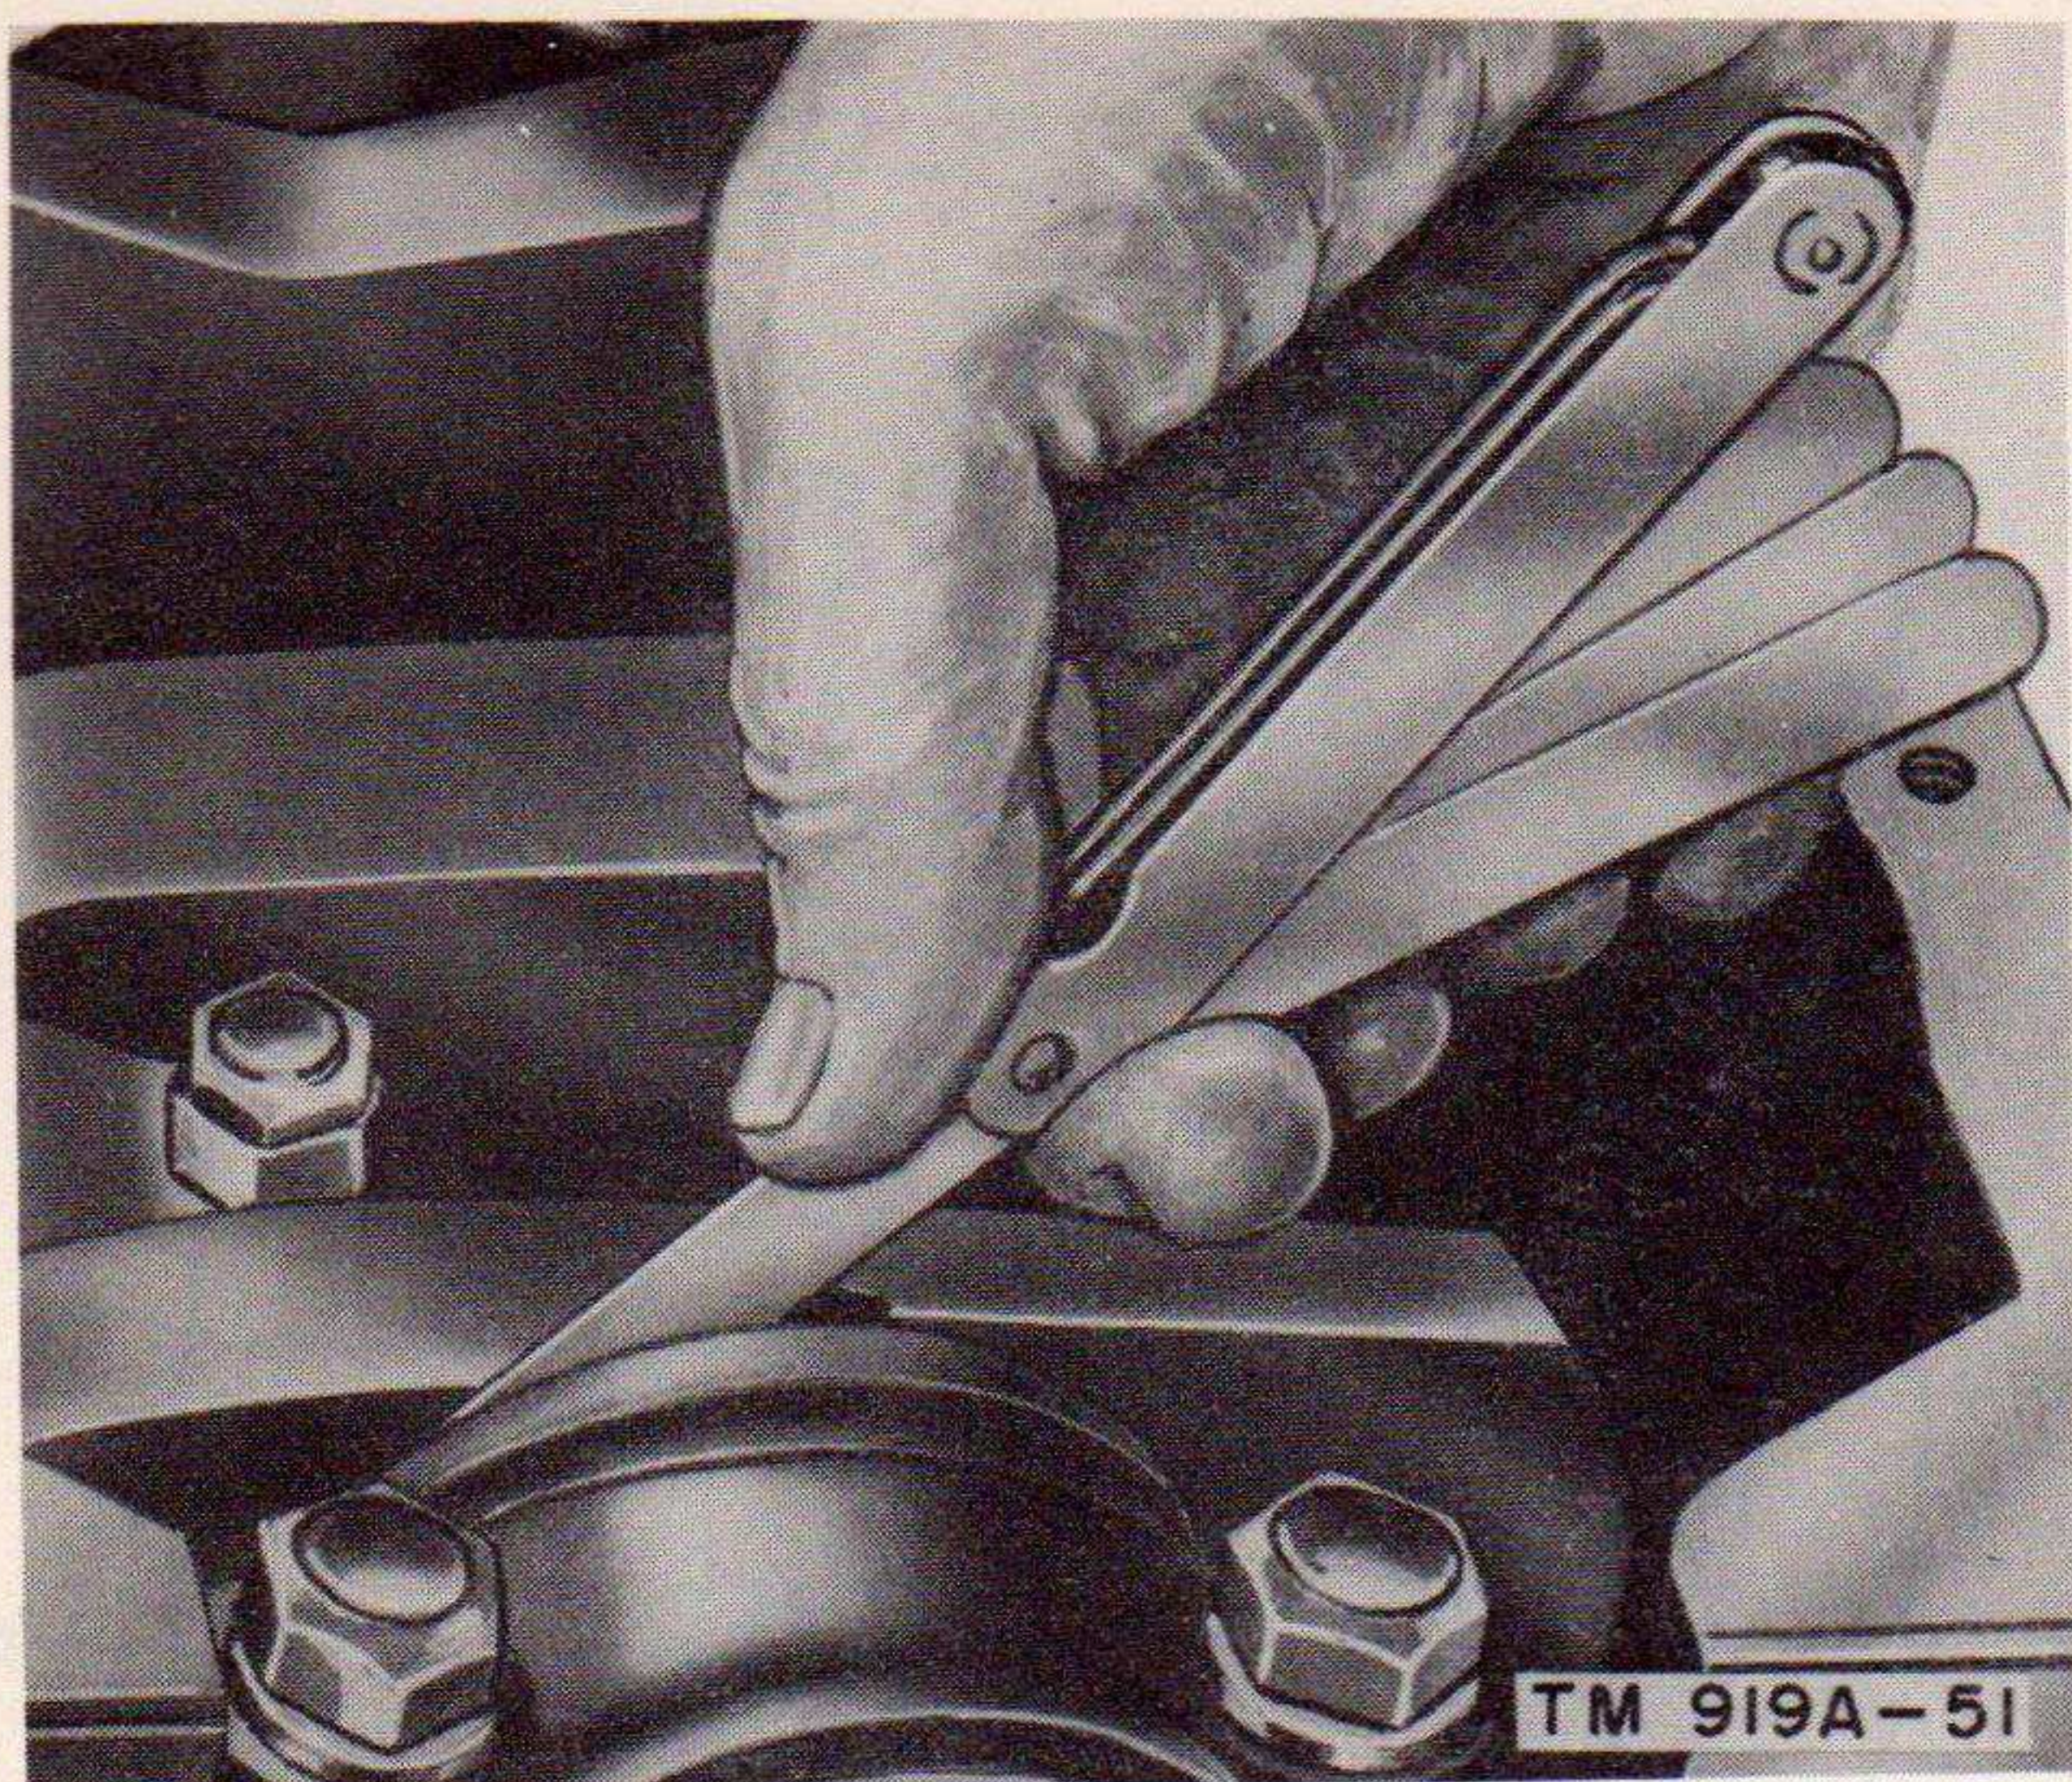

Figure 51. Checking crankshaft end play.
- (7) Reinstall the bearings and caps.
- (8) Check the end play of the crankshaft with a feeler gage as shown in figure 51. Clearance should be between .006 inch and .008 inch. To adjust the end play, remove the crankshaft gear and thrust plate and insert shims as required between the thrust plate and the face of the front main bearing.